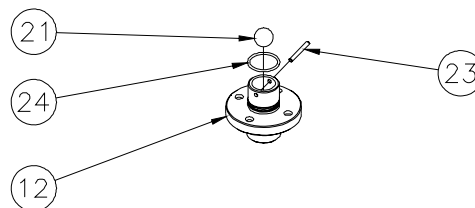

Figure 4-7. Bottom Check
12. Reassemble the Bottom Check, referring to Figure 4-7.